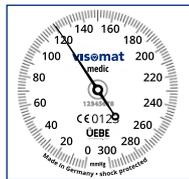

Fig. 1
- On hearing the first clearly thumping sound, read off the systolic blood-pressure value on the dial and make a note of the reading (Fig. 1).